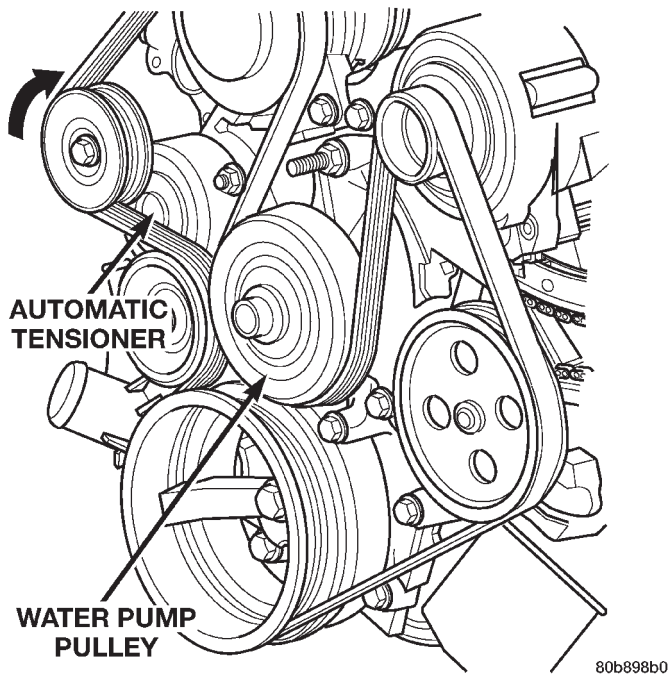
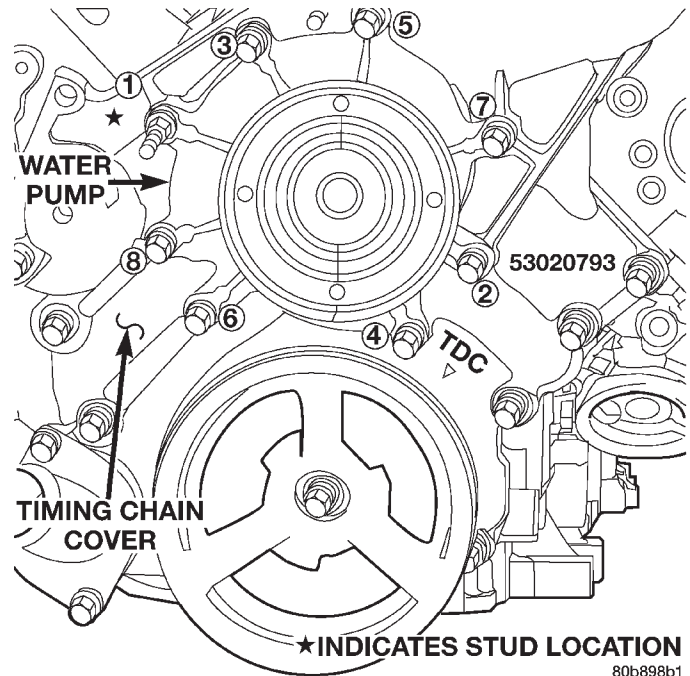

Fig. 33 Automatic Belt Tensioner—4.7L
Fig. 34 Water Pump Installation—4.7L
(6) Remove fan shroud and fan blade/viscous fan drive assembly from vehicle as a complete unit.
(7) After removing fan blade/viscous fan drive assembly, **do not** place thermal viscous fan drive in horizontal position. If stored horizontally, silicone fluid in viscous fan drive could drain into its bearing assembly and contaminate lubricant.
(9) Remove accessory drive belt as follows: The drive belt is equipped with a spring loaded automatic belt tensioner. Relax tension from belt by rotating tensioner clockwise (as viewed from front) (Fig. 33). When all belt tension has been relaxed, remove accessory drive belt.
(1) Clean gasket mating surfaces.
(2) Using a new gasket, position water pump and install mounting bolts as shown. (Fig. 34). Tighten water pump mounting bolts to 40 N·m (30 ft. lbs.) torque.
(3) Spin water pump to be sure that pump impeller does not rub against timing chain case/cover.
(4) Connect radiator lower hose to water pump.
(5) Relax tension from belt tensioner (Fig. 33). Install drive belt.